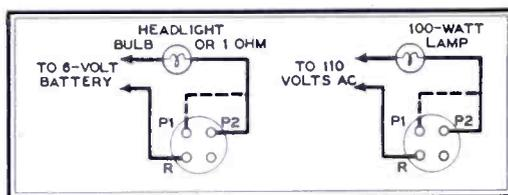

FIG. 2. IF A NEW VIBRATOR STICKS, ONE OF THESE CIRCUITS WILL PROBABLY START IT
2. If that does not start the vibrator, connect it to a 6-volt battery or to 110 volts AC, as in Fig. 2. One side must go to the reed contact R of the vibrator, and the other to the vibrator point P1 or P2, whichever closes the circuit through the actuating magnet. When the vibrator starts, keep it running for about 30 seconds. Two minutes of subsequent operation in the equipment will clean the contacts, and make the unit ready for service.